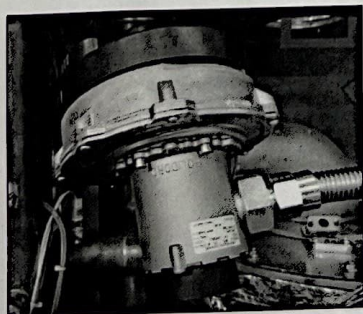

Figure 13 - Blower with Wires Removed
Step #3 - Unplug the two (2) wire harnesses from the blower. See Figure 13.
Step #3 - Use two pipe wrenches to reconnect the appliance gas flex line to the combustion assembly. See Figure 13.